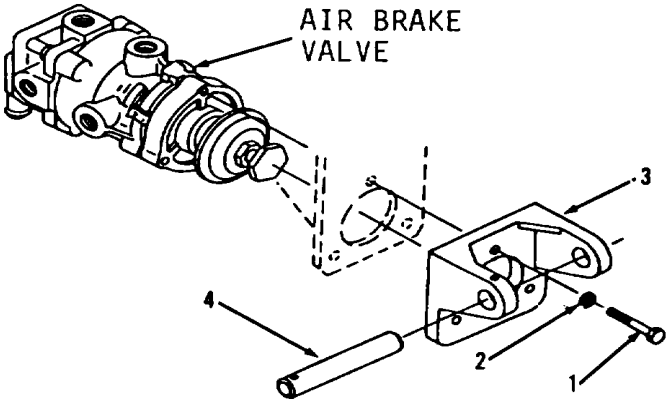

Figure 6-30.
Remove three bolts (1), washer (2), bracket (3) and shaft (4, Figure 6-30) and air brake valve from under right side of cab.